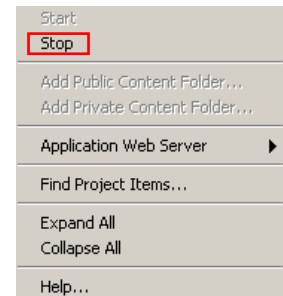

Figure 2c: Stop LabVIEW player
- To stop the LabVIEW player right click on "v1" as shown in Figure 2c. Select "Stop"